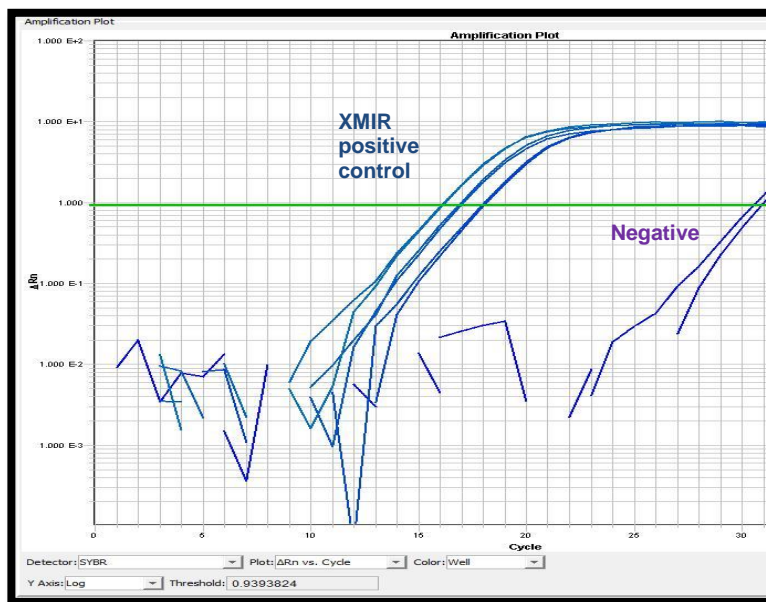

Fig. 5: miRNA cargo of exosomes from cells transfected with positive control oligo is delivered to target cells as quantitated by qPCR.
2. qPCR: 24 hours post-transfection after exosomes are added to target cells, RNA can be extracted from the cell lysate and analyzed by qRT-PCR using our SeraMir kit (**catalog #RA820A-1**), (see sample data Figure 5. for qPCR analysis of target cell delivery). Our positive control oligo can be detected using the spike-in forward primer, and your XMIR or AXMIR can be detected using a forward primer specific to its sequence.